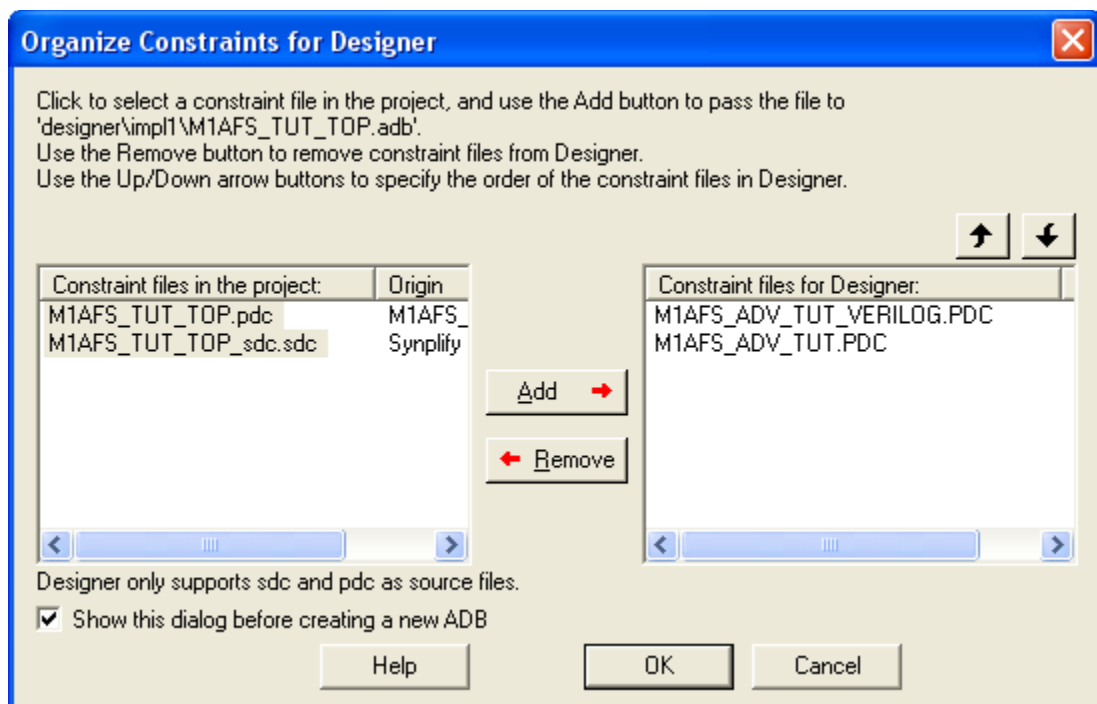

Figure 4-5 • Constraints Organizer Window
3. We do not need the first two files created automatically by SmartDesign and Synplify. Highlight the files not needed and click **Remove**. We will need only the two PDF files we have imported. The constraints organizer should look like Figure 4-5. Click **OK**.